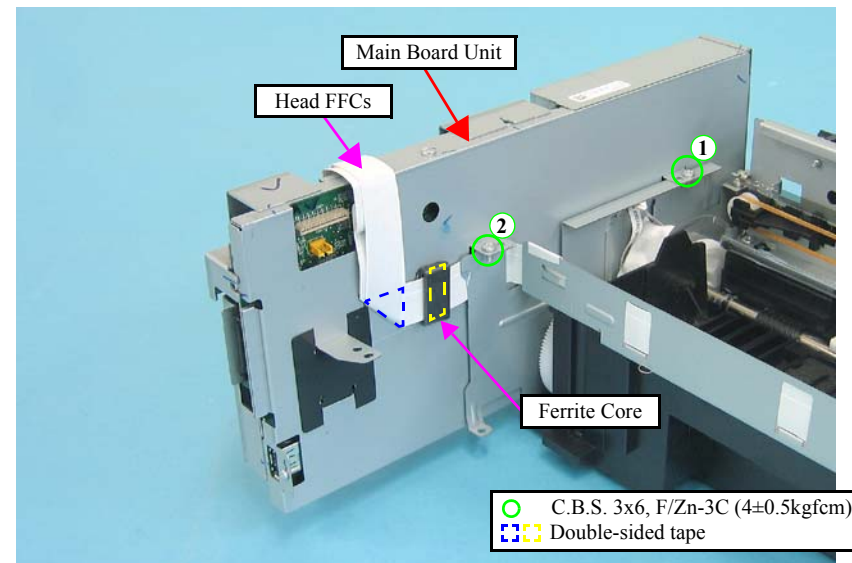

Figure 4-22. Removing the Main Board Unit
- When installing the Main Board Unit, tighten the screws in the order given in Figure 4-22.